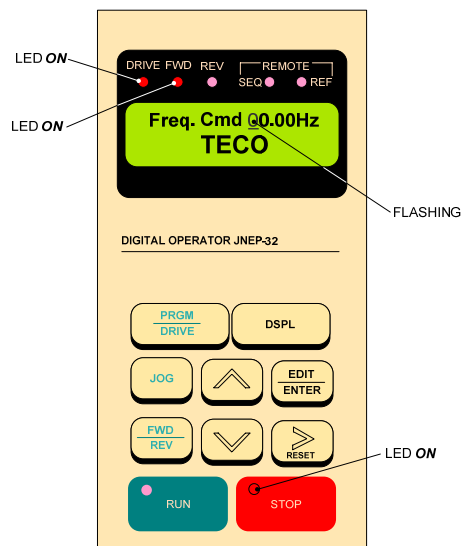

Fig. 1 PA7300 KEYPAD
- Apply AC power to the Inverter and observe the LCD Display Line 1; it should read “**Freq. Cmd 00.00Hz**”. Line 2 should read “**TECO**”. The red LED on the **STOP** key should be **ON**. The **DRIVE** and **FWD** LED’s should be **ON**. (See Fig. 1 below)
Press the  Key to return to the output frequency display as in Fig. 1.
Press the  Key to save. Press the  to return to the output frequency display as in Fig. 1.